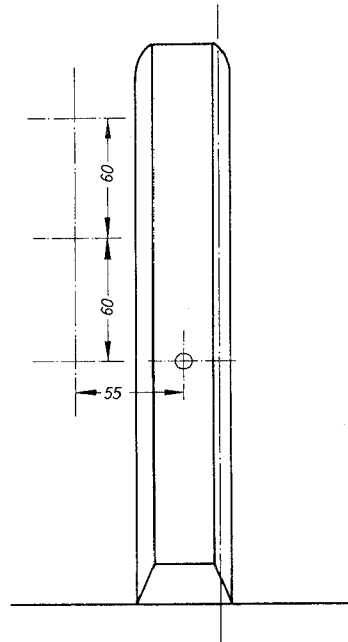

Fig. 6
2. Mark holes to fix relay support on the rear wall of the front compartment (see Fig. 6) and bore with a 5.5 mm bore.